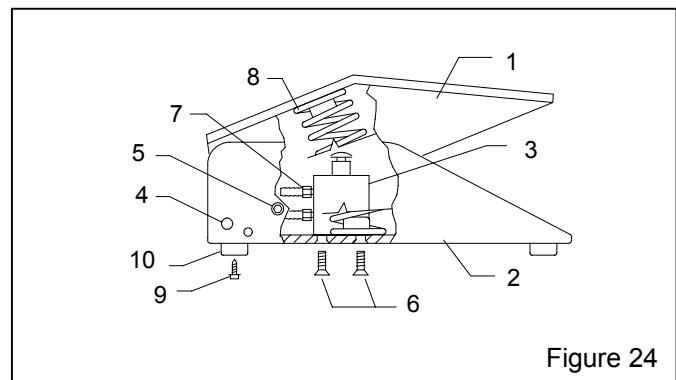

Figure 24
9.8 Foot Pedal Assembly, Figure 24